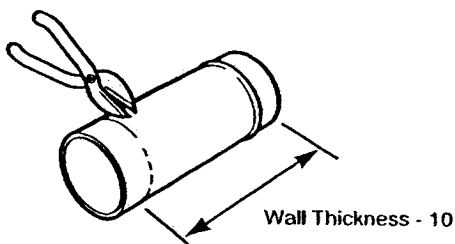

Fig. 63
5. Mark off the dimension, wall thickness - 10mm ( $\frac{7}{8}$  in), measuring from the beaded end of the duct and cut off the remaining length of the duct. Ensure that the cut is square and reasonably straight (Fig. 63).